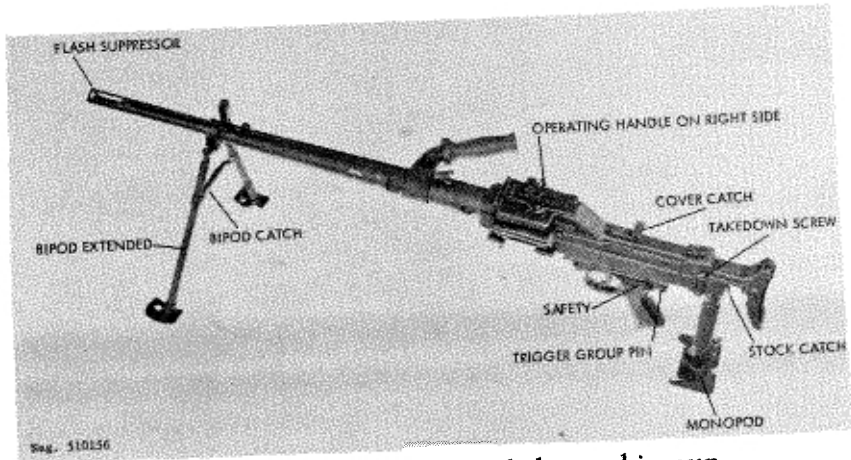
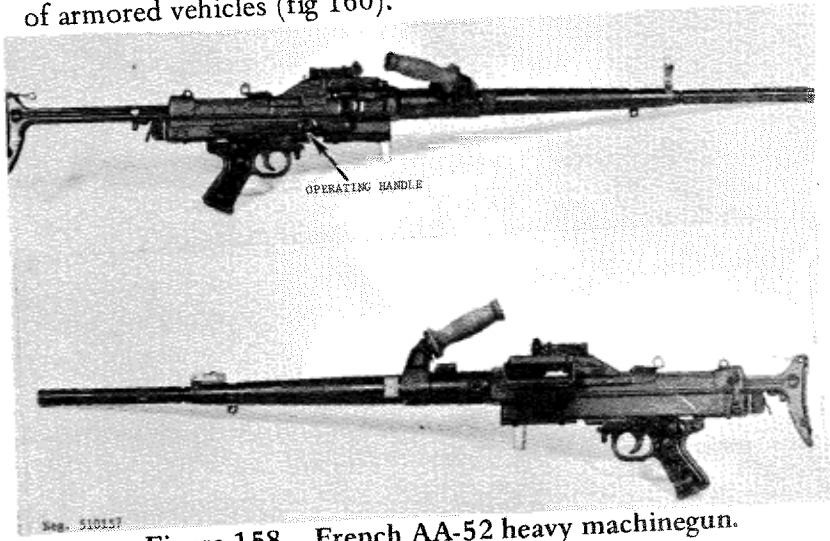
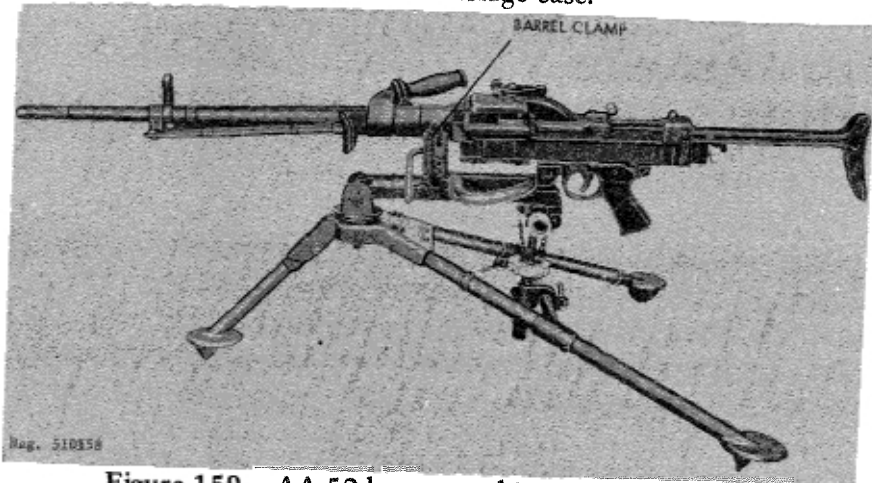

Figure 157. French AA-52 light machinegun.
Figure 158. French AA-52 heavy machinegun.
Figure 159. AA-52 heavy machinegun on tripod.
a. The AA-52 machinegun (fig 157 and 158) is the standard general-purpose machinegun of the French Army. The gun can be readily fitted with one of two different weight barrels, fired from a bipod (fig 157) or a light tripod (fig 159), and fired
b. If the weapon is bipod equipped, unsnap the catch (fig 157) and swing the bipod down. When it is at a right angle to the barrel, spread the bipod legs. If the gun is to be used on a tripod, mate the front recess of the trigger guard with the mount adaptor, then close the barrel clamp (fig 159) and tighten. Press the catch (fig 157) and extend the stock if desired.
c. Pull the operating handle (fig 158) fully rearward, then thrust it fully forward. Press the safety (fig 157) to the left (safe). Press the cover catch (fig 157) forward and open the cover.
- a. Clear the gun (para 208f). Press the cover catch (fig 157) forward and open the feed cover.
- b. Unscrew the takedown screw (fig 157) at the left rear of the receiver and remove it. **CAUTION:** Press down on top of the butt while removing the takedown pin. Ease the butt stock upward and remove it. Pull out the driving spring and guide.
- d. Remove the trigger group pin (fig 157) after depressing its lock, and pull the trigger group out of the receiver.